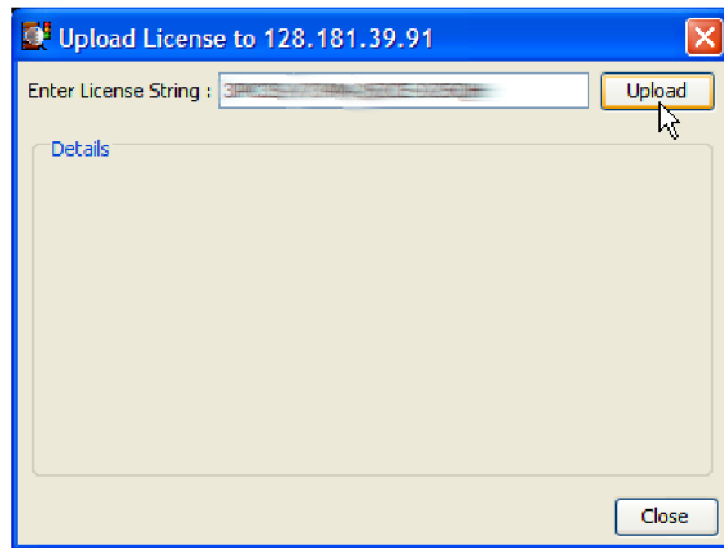

Figure 3: Upload license dialog box
- In the Connect to MTM Device dialog box, click **Upload License** to open the Upload License dialog box. (See Figure 3.)